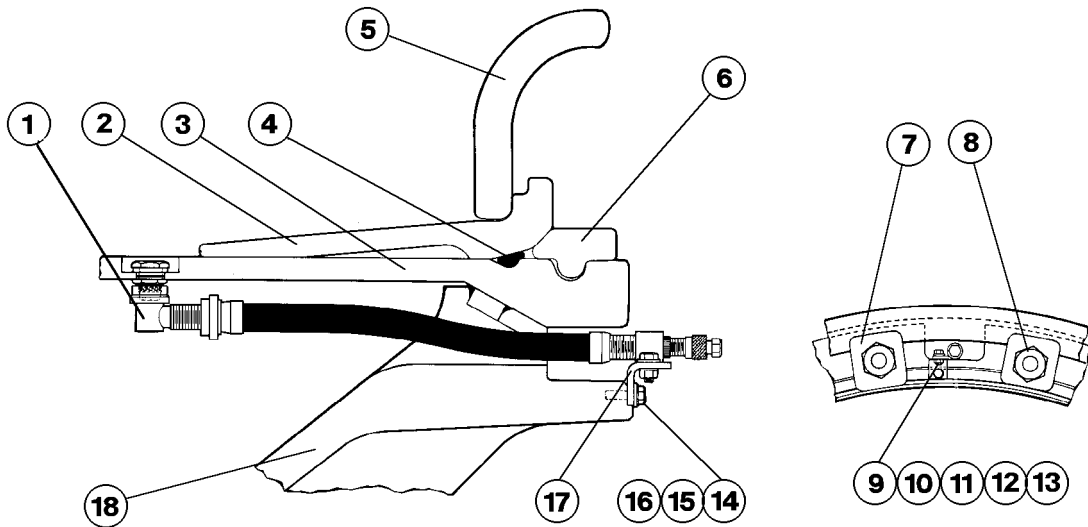

FIGURE 2-1. FRONT WHEEL ASSEMBLY
6. Secure wheel assembly to hoist or fork lift and take up slack. Remove wheel nuts (8, Figure 2-1), and wheel retainer lugs (7) securing wheel assembly to wheel hub. Remove the clamp that secures the tire inflation valve to the wheel hub.